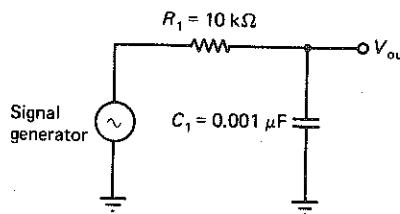

FIGURE 1-1 Passive RC lowpass filter
In this section the frequency response of a passive RC lowpass filter is examined. The schematic diagram for the lowpass filter circuit used in this section is shown in Figure 1-1. The output voltage is taken across C_1 . At relatively high frequencies, the capacitive reactance is extremely low and at relative low frequencies, the capacitive reactance is extremely high. Therefore, C_1 looks like a short circuit to high frequencies and an open circuit to low frequencies. Thus, high frequencies are shorted to ground, and low frequencies appear across C_1 .
1. Construct the RC lowpass filter circuit shown in Figure 1-1.